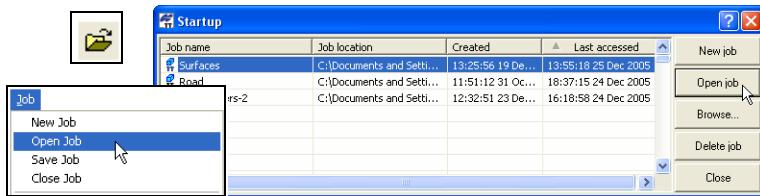

Figure 2-4. Ways to Open a Job
1. To open a job, use one of the above techniques or click one of the following (Figure 2-4):